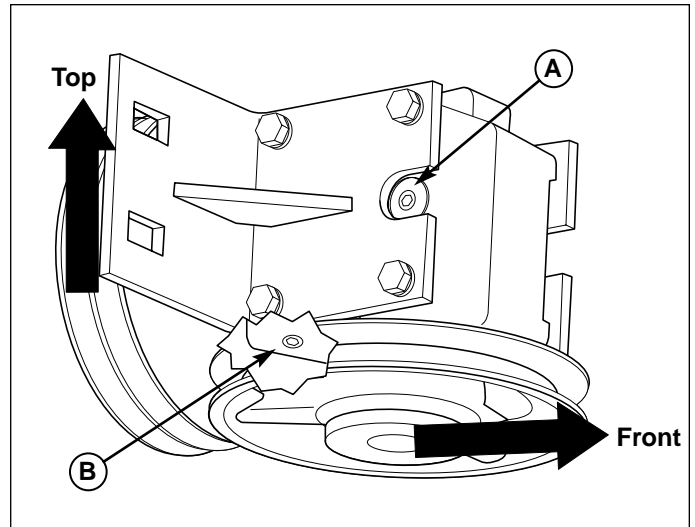

Figure 54. Gearbox Oil Level
1. Remove fill plug (A, Figure 54) on gearbox.